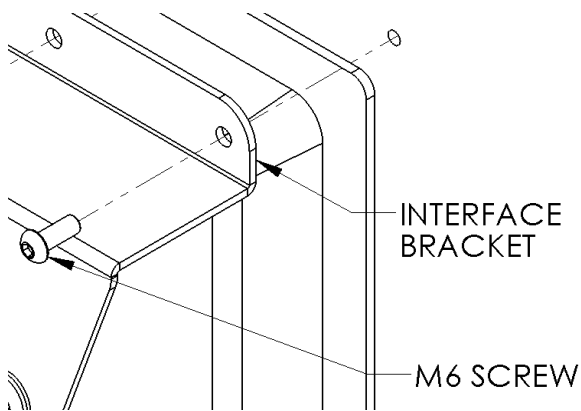
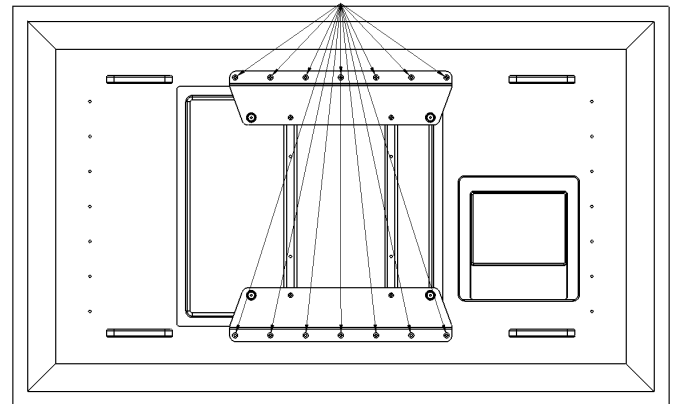

Figure 6
Figure 7
3. **Bracket Installation:** Attach brackets to back of display using fourteen M6 screws (see Figure 6 & Figure 7). Do not over tighten screws.